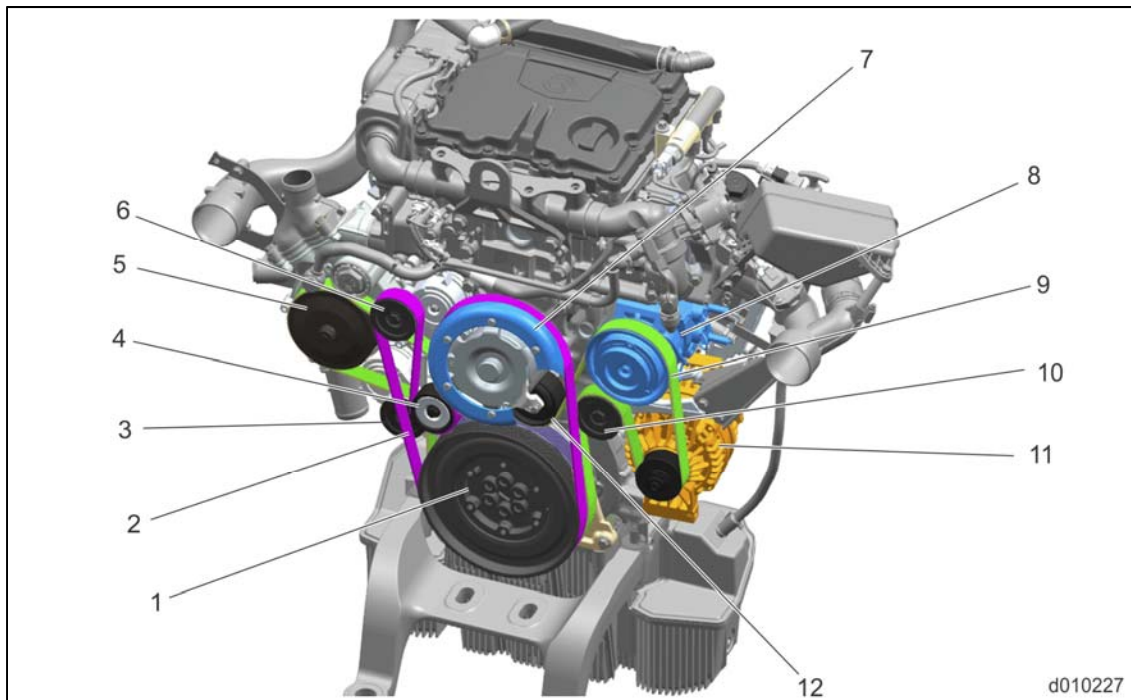

Figure 3 – Fan Drive Idler Pulley and Fan Drive Belt Tensioner Location
10. Replace the fan hub with P/N: A9362000628 and the four fan hub mounting bolts with P/N: N91010501001. **REFERENCE** chapter “Belt Drive” and section “Installation of the Fan Hub” in the *GHG17 DD5 934912(C) Workshop Manual* (DDC-SVC-MAN-0194).
13. Replace the four fan hub mounting bolts one at a time with P/N: N91010501001. **REFERENCE** chapter “Belt Drive” and section “Installation of the Fan Hub” in the *GHG17 DD5 934912(C) Workshop Manual* (DDC-SVC-MAN-0194).
15. Torque the fan drive idler pulley (item #4) to 50 N·m (37 lb·ft). See Figure 3.
16. Torque the fan drive belt tensioner (item #6) mounting bolt to the cylinder block to 50 N·m (37 lb·ft). See Figure 3. You must torque the mounting bolt to the cylinder block, and not the pulley mounting bolt.
17. Install the fan hub pulley. **REFERENCE** chapter “Belt Drive” and section “Installation of the Fan Hub Pulley” in the *GHG17 DD5 934912(C) Workshop Manual* (DDC-SVC-MAN-0194).